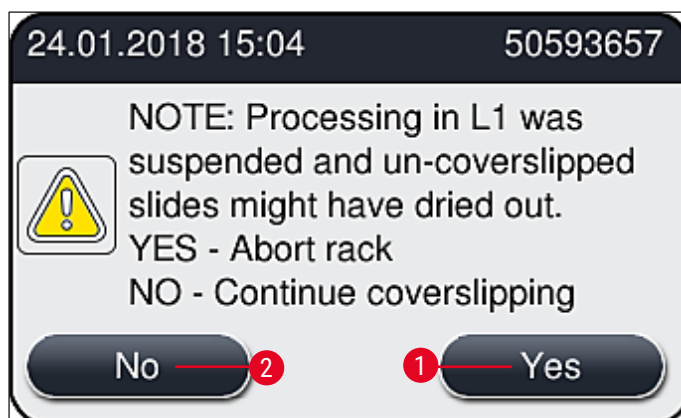

Fig. 112
9. The instrument software performs a fill level scan. The user receives an information message when the check is finished (→ Fig. 112).